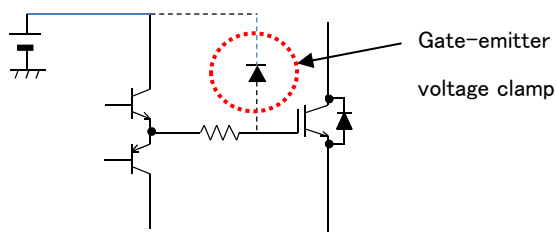

Figure 9-3. Gate-emitter voltage surge clamp example
- When the load is short-circuited, the gate-emitter voltage V_{GE} rises and may break down due to the larger current flowing. Therefore, it is recommended to suppress surges of the gate-emitter voltage. An example is shown below in Figure 9-3.